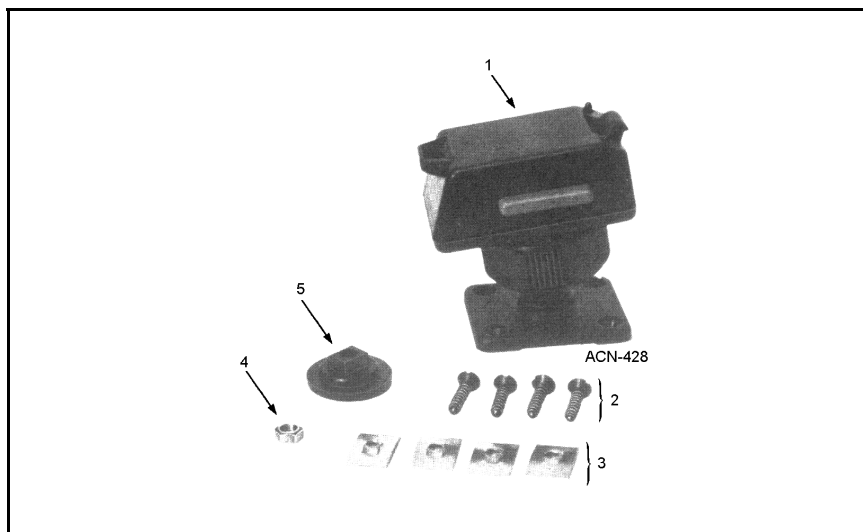

Figure 6 - Handset Holder And Mounting Hardware
Mount the handset holder in a location convenient to the operator where it will not interfere with the safe operation of the vehicle or be a hazard to the vehicle passengers. The positive latch handset holder is designed to be mounted in any position using the adjustable mount. The positive latch mechanism prevents the handset from being easily dislodged. The handset holder and the included mounting hardware are shown in Figure 6.
If mounting to a plastic or thin metal surface or using existing holes, use the sheet nuts (item 3 in Figure 6) on the underside of the holes. Drill a larger hole to permit the screws to turn freely when using these sheet nuts.
2. Use the four #8-18 x 3/4" or #8-18 x 1-1/2 self-tapping screws (items 2 in Figure 6) to mount the holder.